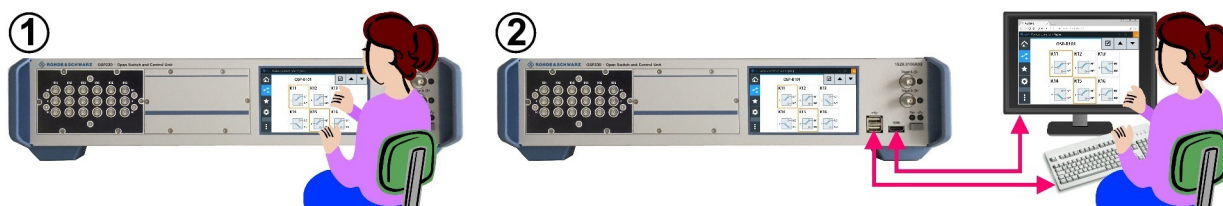
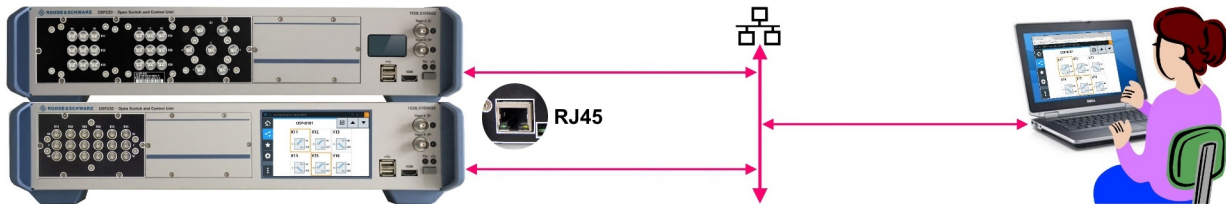
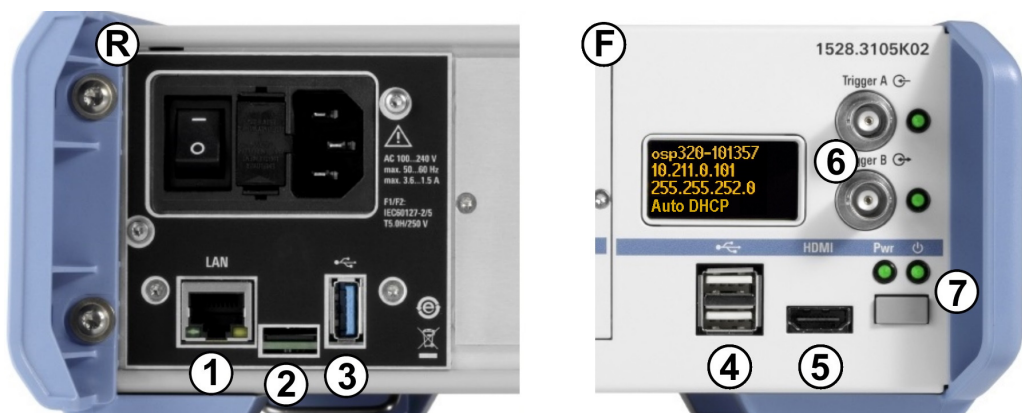

Figure 3-13: Operation by integrated touchscreen (1) or by external USB / HDMI devices (2)
Figure 3-14: Manual remote operation via "WebGUI" and LAN
Figure 3-16: Connectors and functional elements on the switch unit's rear and front panel
Instead of using the on-screen keyboard, you can enter data with a connected external keyboard (Figure 3-13) or via the user interface in a browser (Figure 3-14).
Alternatively, with any of the R&S OSP models, you can control your switch unit via an external mouse and keyboard, connected to the USB interfaces (see 4 in Figure 3-16). Optionally (especially without integrated touchscreen), you can connect an external monitor to the switch unit's HDMI interface (see 5).
For connecting external devices, see Figure 3-16.
- As on the right-hand side in Figure 3-13, connect an external monitor to the HDMI connector on the unit's front panel (labeled 5 in Figure 3-16). Also connect a mouse and keyboard to the USB connectors, labeled (4).
- Connect the switch unit to a local area network (LAN) by the RJ-45 connector on the unit's rear panel. The connector is labeled (1) in Figure 3-16. Read the unit's IP address from the status display and proceed as described in Chapter 3.3.1.2, "Manual remote operation", on page 36, or Chapter 3.3.1.3, "Remote operation by SCPI commands", on page 36.